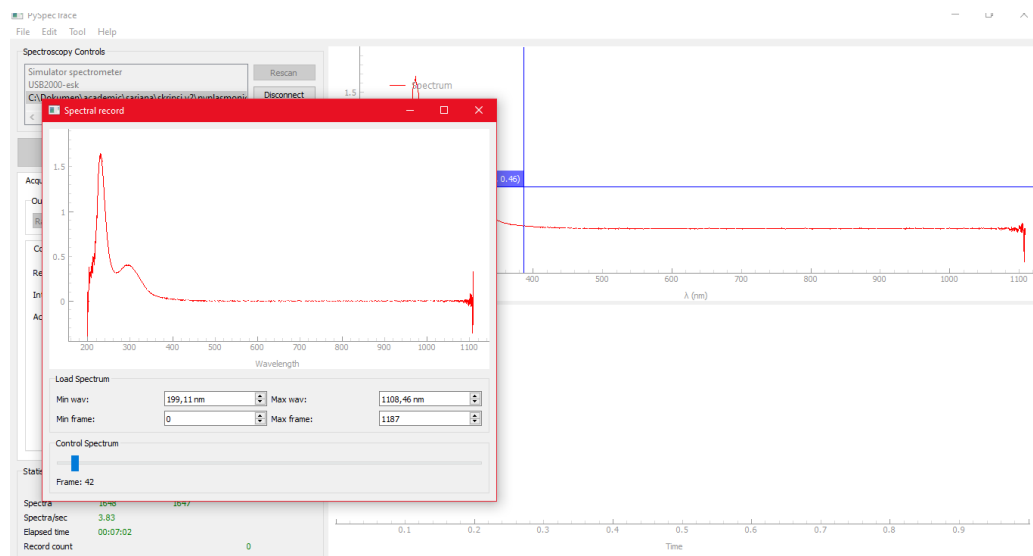
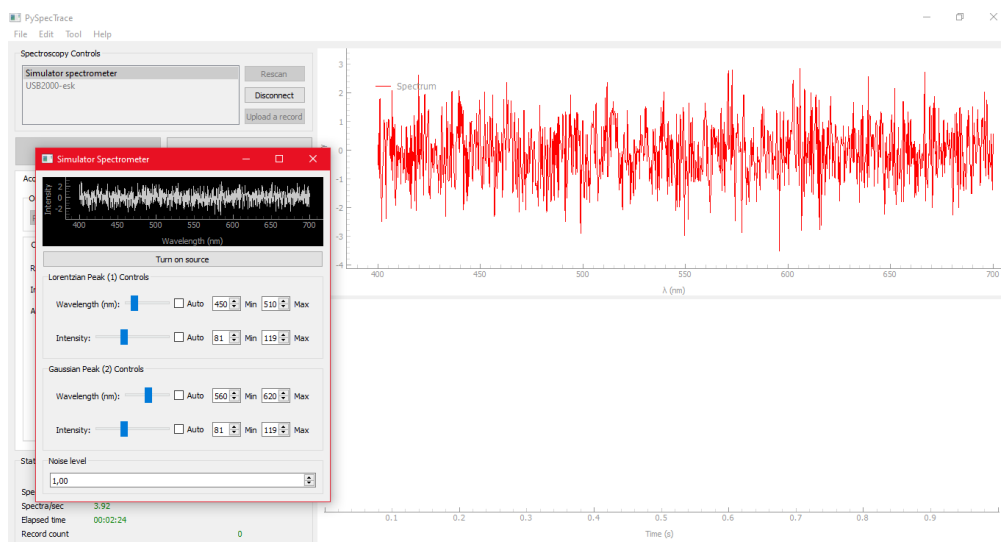
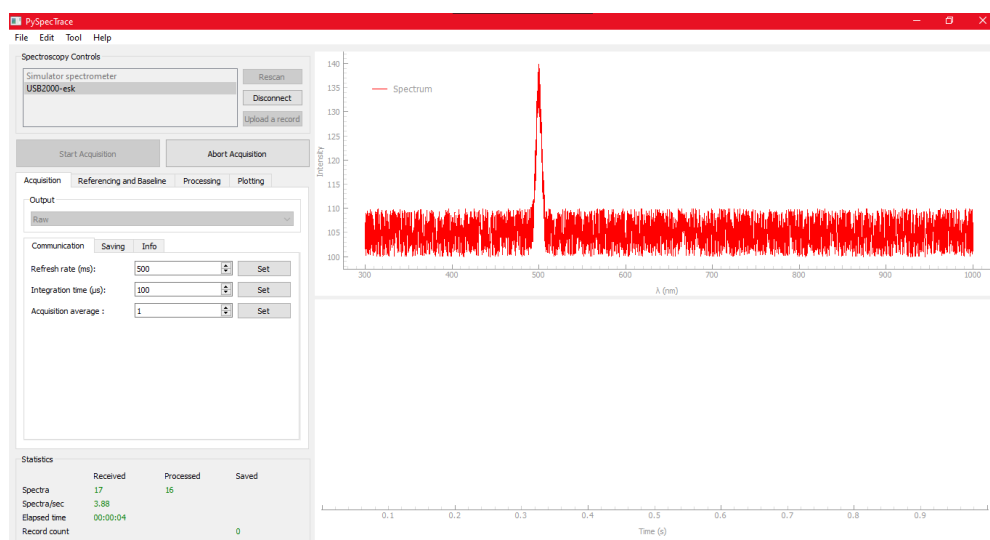

Figure 4 Spectrum display from the recorded spectrum source.
Figure 5 Spectrum display from the spectrometer simulator source.
Figure 6 Spectrum display from the spectrometer source.
One can choose the spectrum source, and there are three possibilities: (1) a recorded spectrum (via the **upload a record** button) (Figure 4), (2) a built-in spectrometer simulator (Figure 5), and (3) a spectrometer (Figure 6).
In the simulator spectrometer mode (Figure 5), users possess comprehensive authority to generate customized spectra. They can create Gaussian and Lorentzian peaks, implement dynamic peak shifts, modify intensity, and set dynamic range boundaries. The simulator further permits the addition of noise to the spectrum and allows toggling the light source on or off, which is advantageous for simulating a dark reference.